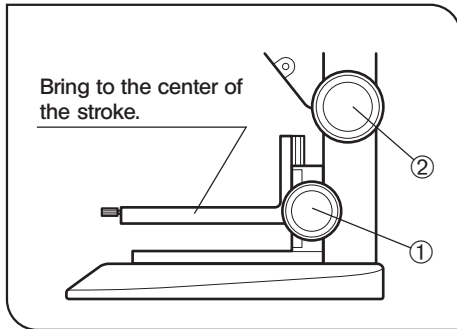

Fig. 19
**Adjusting the focus (Fig. 19)**